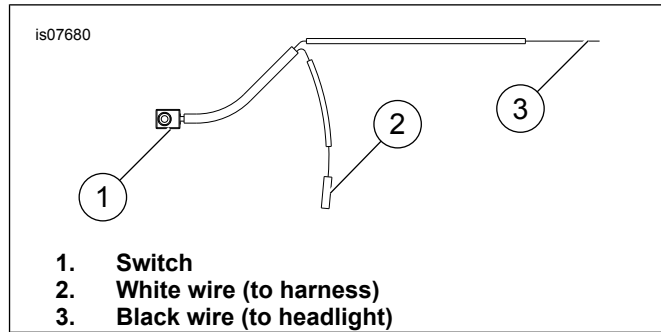

Figure 4. Kit Wiring Harness
12. See Figure 4. Locate the headlamp connector [38] in left caddy and disconnect.
15. See Figure 4. Route the harness past the steering head, and route the lamp switch (1) leg of the harness along the left side of the handlebar to the clutch control.